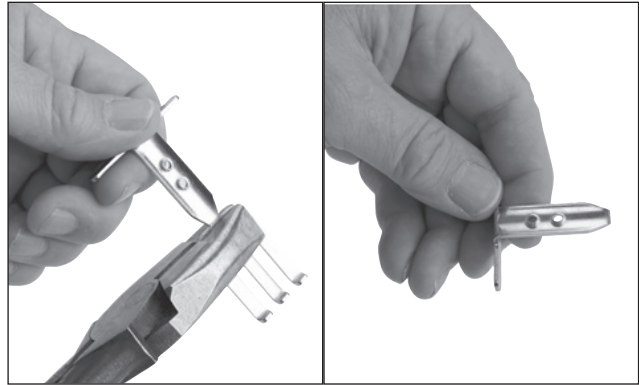

Figure 4
3.4.3 If securing the strength members is not required, the front half of the sheath retention inserts can be removed as shown in Figure 4.